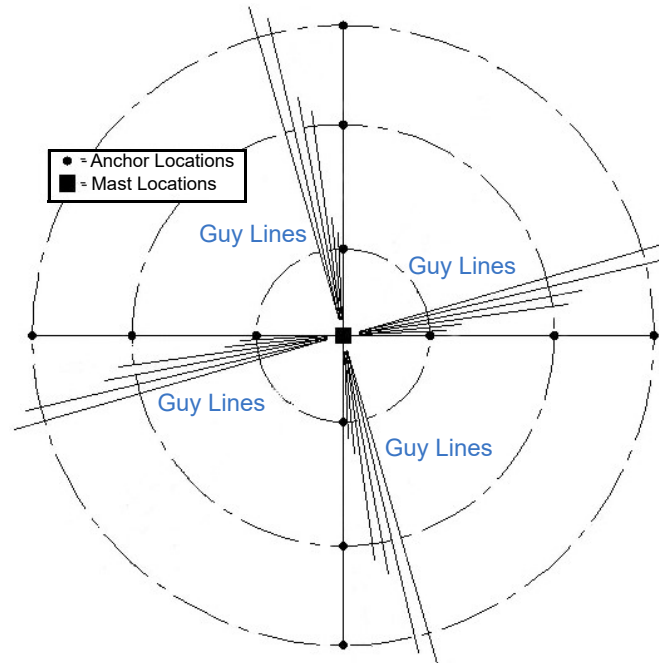

Figure 5-1 Sample of Laying Out Guy Lines (Mast with 4 Way 5 Level Guying Shown)
5. Prior to extending the mast, The Will-Burt Company recommends laying out any guy lines so they do not become tangled during extension (Figure 5-1).